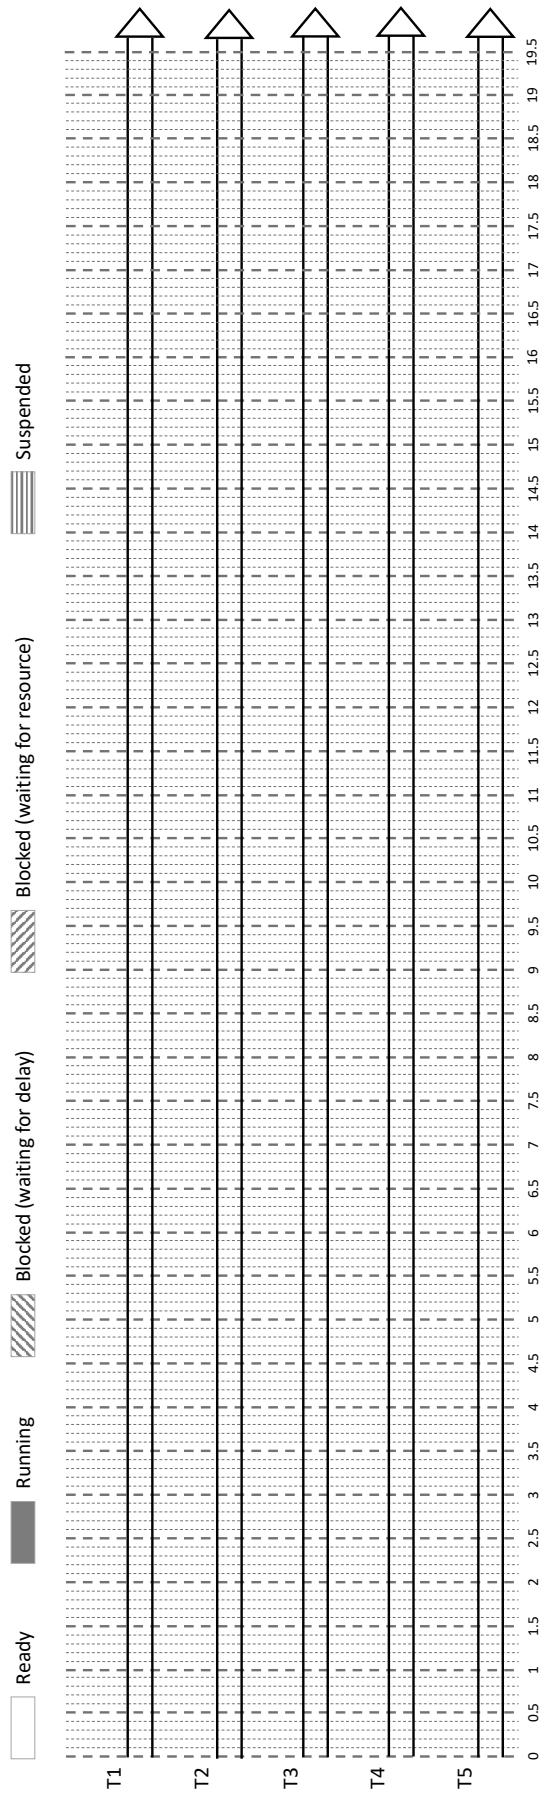

FIGURE 1.5 – Round Robin (RR) scheduling trace with slot times = 2.
- (c) With slot time = 2 and consider the following set of tasks that arrive at time 0ms. Complete the trace in the figure 1.5 and give the Average waiting time (AWT).
5. SRTF (Shortest Remaining Time First), the arrival times (AT) of the tasks being the following : $AT(T_1) = 0$, $AT(T_2) = 1$, $AT(T_3) = 2$, $AT(T_4) = 3$, $AT(T_5) = 4$ (cf figure 1.6).